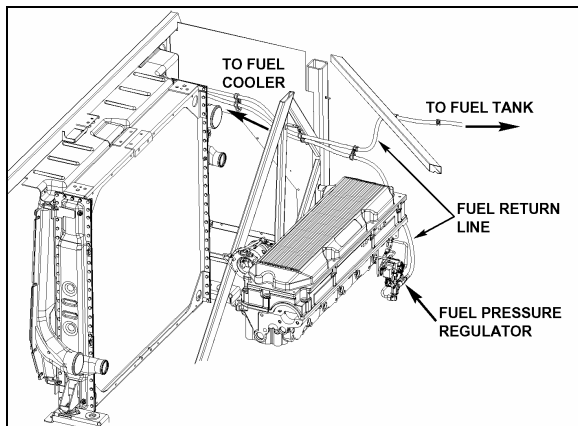

FIGURE 20: FUEL RETURN LINE 03074
3. Discard potentiometer (Fig. 20).
4. Position new potentiometer. Press potentiometer onto the potentiometer shaft, matching cutouts in shaft to drive tangs of potentiometer. Apply hand pressure until potentiometer has bottomed out in housing. Reinstall screws (Fig. 20) and tighten just enough to secure potentiometer lightly. Tighten screws to 10 - 20 lbf-in (1.5 - .2 Nm).